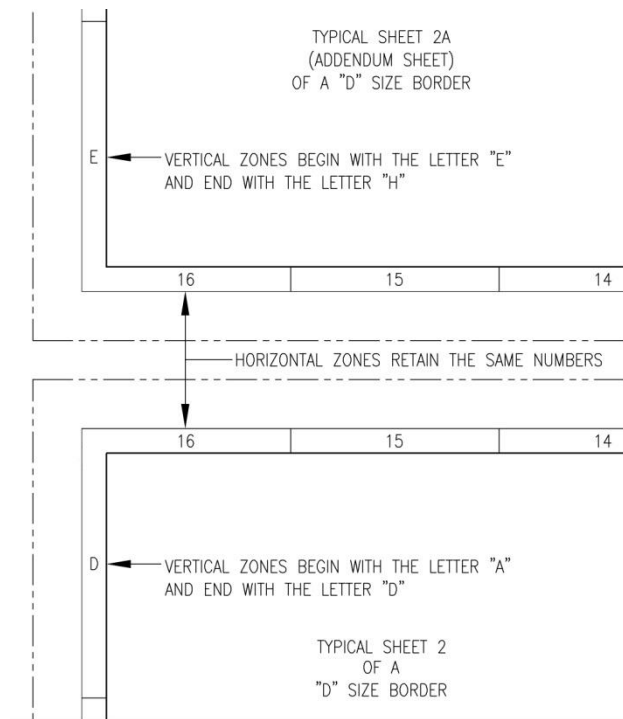

FIGURE 1: DRAWING ZONES FOR ADDENDUM SHEETS (NOT TO SCALE – FOR ILLUSTRATION PURPOSES ONLY)
3.4 Drawing zone requirements. All drawing sheets, except A and B size drawings, shall include vertical (alphabetical) and horizontal (numerical) zones for reference purposes (Figure 1).